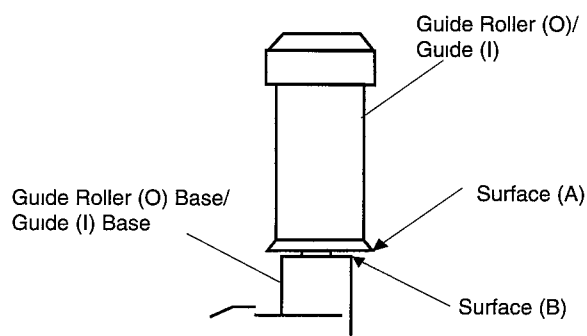

Fig. 3-3
1. If both check items 1 and 2 are not satisfied after the above countermeasures, check the tension band and tension arm spring, and if necessary, replace either or both.
3.3 Coarse Adjustment of Guide Roller (O) and Guide (I) Heights (Fig. 3-3)